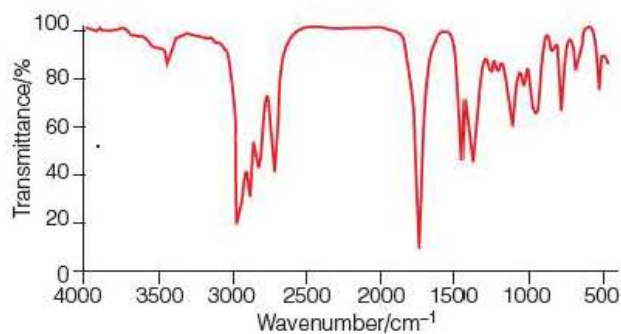

Figure 17.12 ▲
- cyclohexane (2)
- 1-bromopropane (2)
- propanone (2)
- Oxidation of butan-1-ol gives a product with the infrared spectrum shown in Figure 17.12. Use the data sheets on the Dynamic Learning Student website to interpret the spectrum. State the reagents and conditions used to carry out the oxidation of the alcohol, giving your reasons. (4)